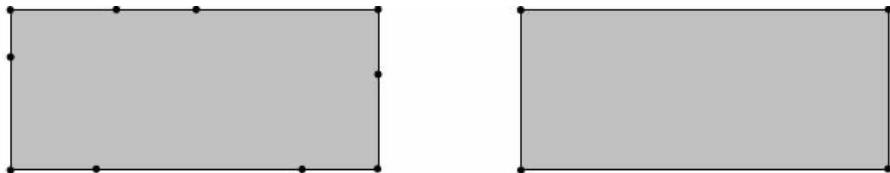

Figure 3.2: A face which has unnecessary vertices that should be removed
- Faces are defined by three or more coplanar vertices, but should be composed of the minimum number of vertices needed to define the perimeter of the face. Adjacent collinear vertices should be avoided. The face on the left of Figure 3.2 provides an example of a poorly defined face with several collinear vertices. Ideally, this face should only be defined by four vertices, as shown on the right.